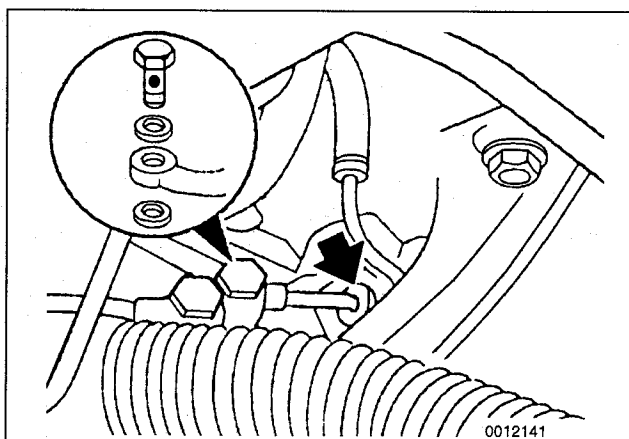

Fig. 5. Fluid hoses and banjo bolts at steering gear (arrows).
7. Remove fluid line banjo bolt from steering gear. See Fig. 5.